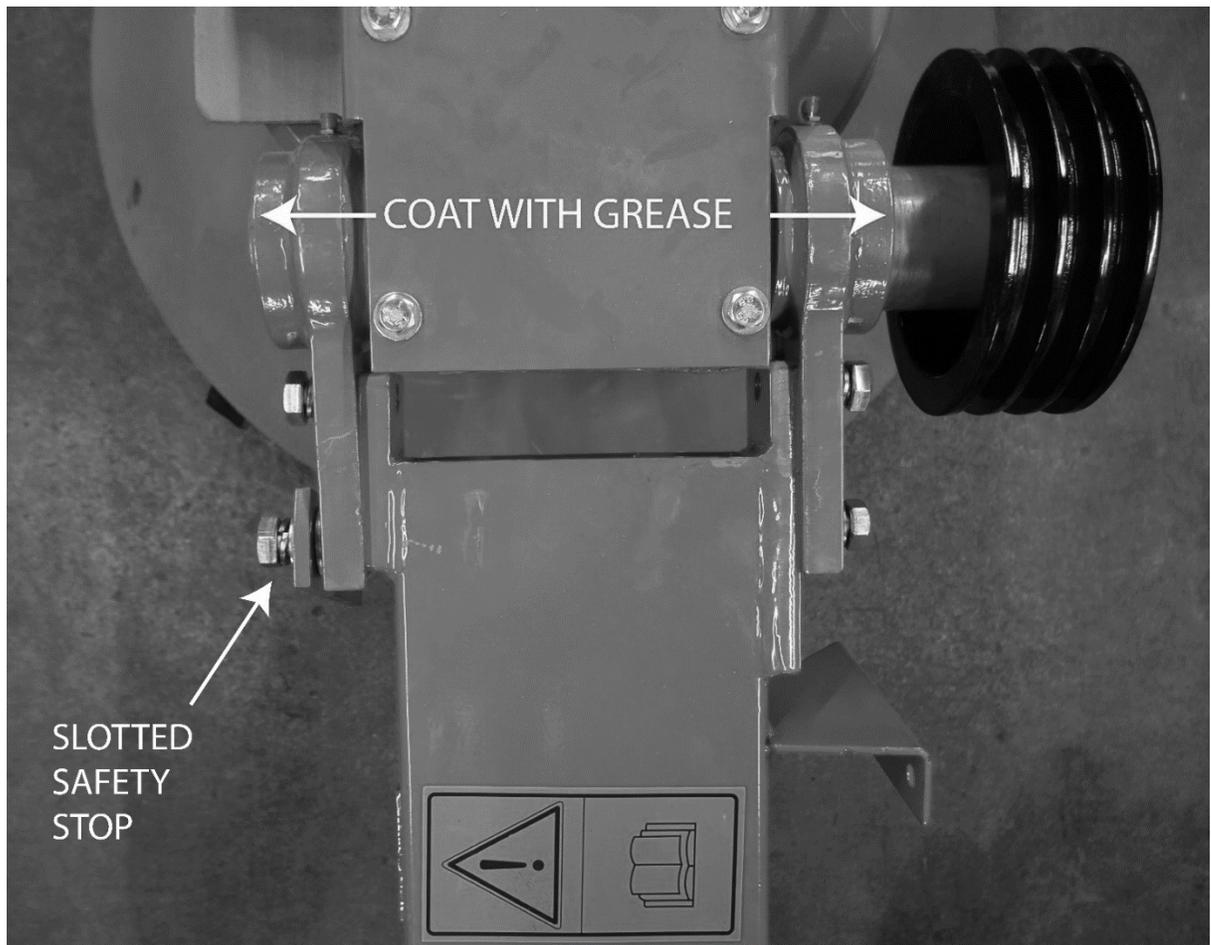

Figure 7
- 3.2.1 Thoroughly coat the inside of the hinge brackets that are shipped in the hitch frame with grease. Attach the hitch main frame to the mower main frame using the four bolts and hinge brackets, as shown in Figure 7. Note the location of the slotted safety stop and be sure to reinstall in the same location.